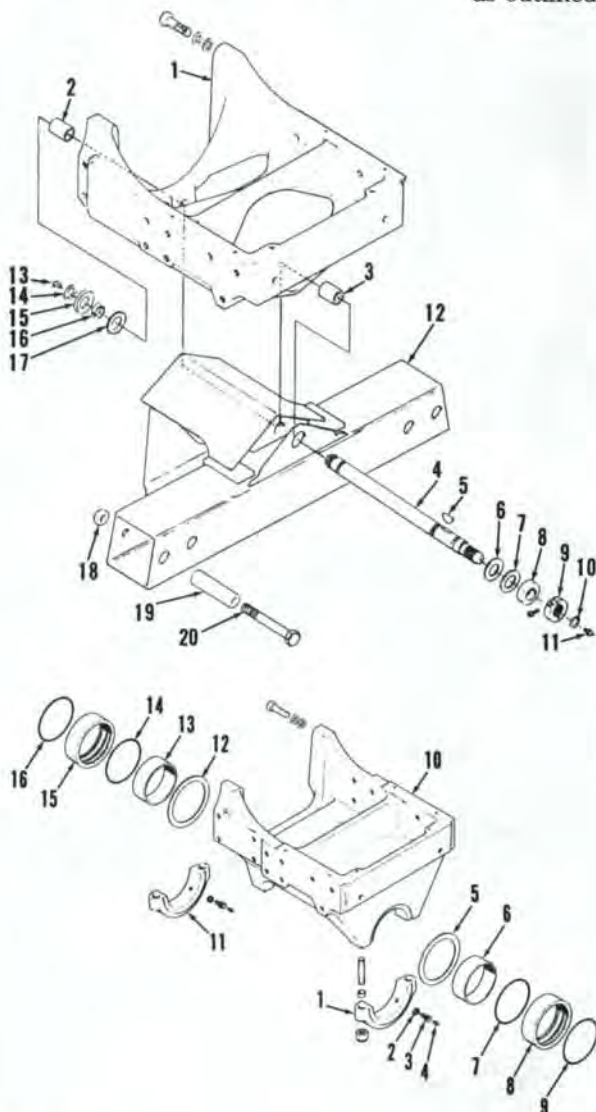

Fig. 7—Exploded view of extended wheelbase front axle main member assembly available on Models 2390, 2590, 2094, 2294, 2394 and 2594.
7. Models 2390, 2590, 2094, 2294, 2394 and 2594 tractors have an optionally available extended wheel base front axle which increases tractor wheelbase from 104 inches (264 cm) on standard units to 110 inches (279 cm) on Models 2094 and 2294 or 118 inches (300 cm) on Models 2390, 2590, 2394 and 2594. See Fig. 7. Removal of axle main member is similar to that of all model tractors outlined in paragraph 6 except the following: Tie rods and power steering cylinder pass through axle main member (12—Fig. 7); therefore hydraulic lines to steering cylinder must be disconnected for removal of axle. Cap or plug all hydraulic openings to prevent contamination of hydraulic system.